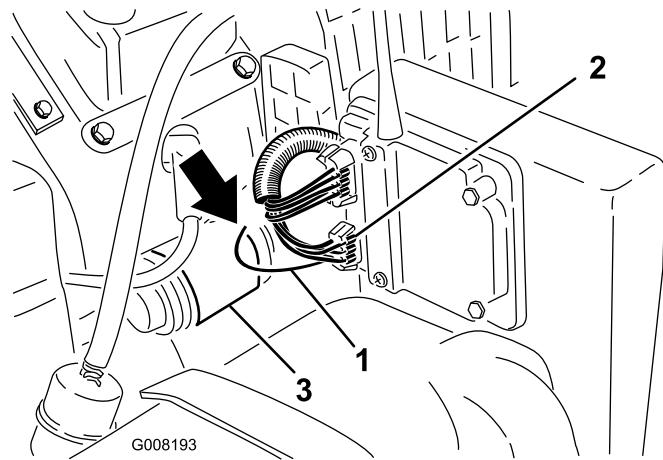

Figure 22
- Locate the yellow with black stripe wire which is tucked into the wire harness tubing coming from the 6 pin connector at the receiver (Figure 22). Pull the wire out of the tubing.